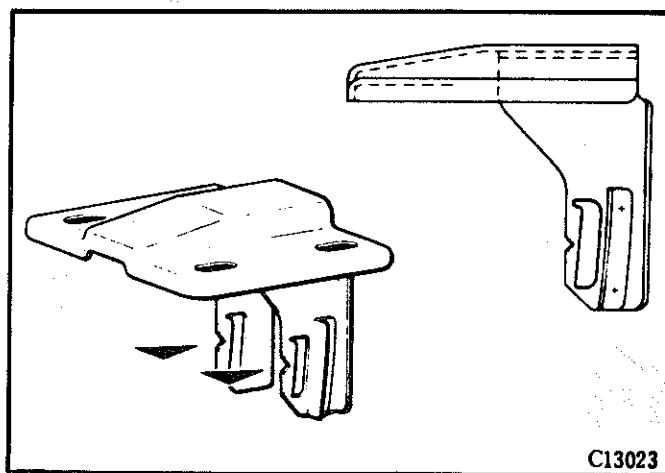

Fig. 12—Inspecting the tilt bracket
**NOTE:** The notches shown in fig. 12 are broken by the tilt lock bolt upon secondary impact (the driver's impact on the steering wheel). Pay special attention when checking this area for cracks.